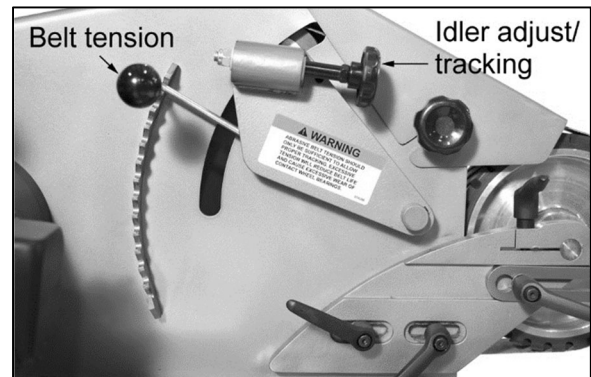

Figure 7-3: Belt tracking
1. Pull out on tension lever (shown in Figure 7-3) and lower it, to release tension on the belt.
3. Turn idler adjust screw (Figure 7-3) clockwise to cause belt to track right. Turn idler screw counterclockwise to cause belt to track left. Perform this in small increments and allow belt to respond to the changes.